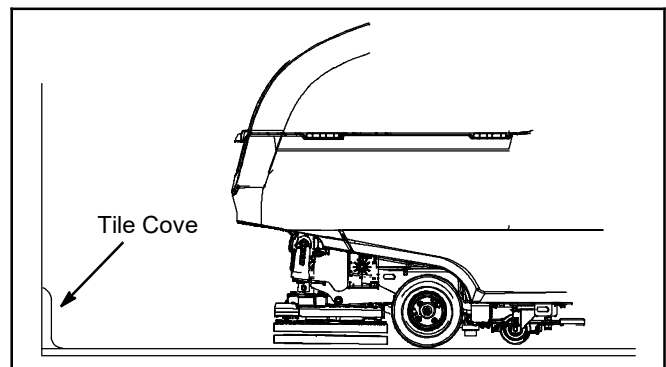

FIG. 43
- Orbital Scrub Head Model - Use caution when working near the tile cove (Figure 43) and floor mounted fixtures such as pedestal sinks and other breakable items. Keep the metal scrub head edge away to avoid possible damage.